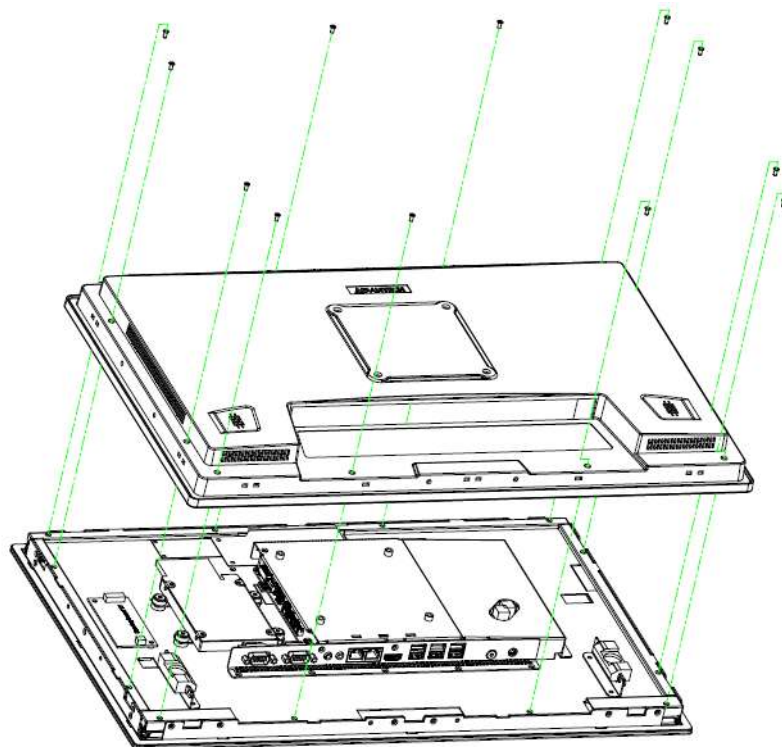

Figure 3.1 Installing Primary 2.5" HDD
2. Install an HDD in the metal bracket and tighten the affixing screws (see Figure 3.1).